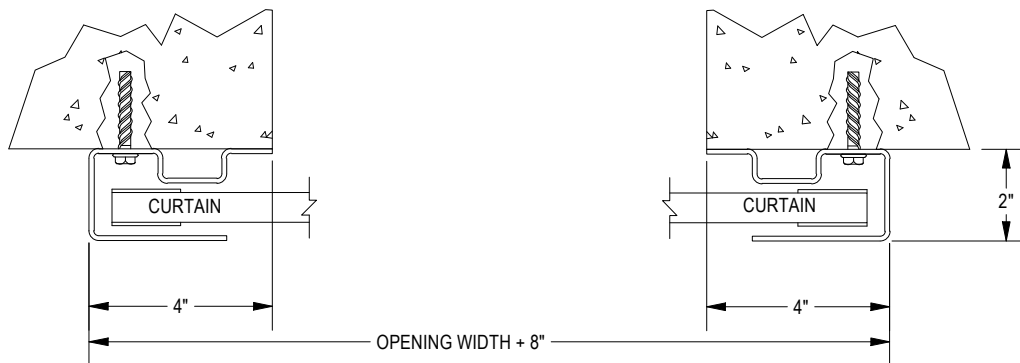

FIGURE 9: CONCRETE/MASONRY JAMBS
- **MASONRY JAMBS:** $\frac{1}{4}$ " X 1 $\frac{3}{4}$ " DEWALT WEDGE-BOLT+. **See Page 9 Figure 9.**